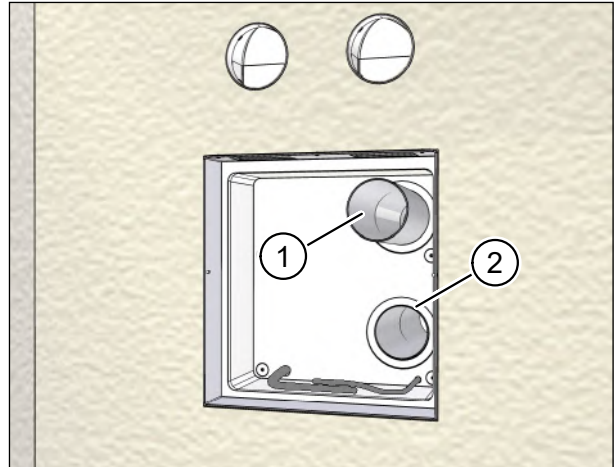

Fig. 68: Cutting ventilation pipes to length
- ▶ Push the two ventilation pipes (item 1 in Fig. 68) into the openings in the installation kit until they end flush with the inside of the installation kit (item 2 in Fig. 68).